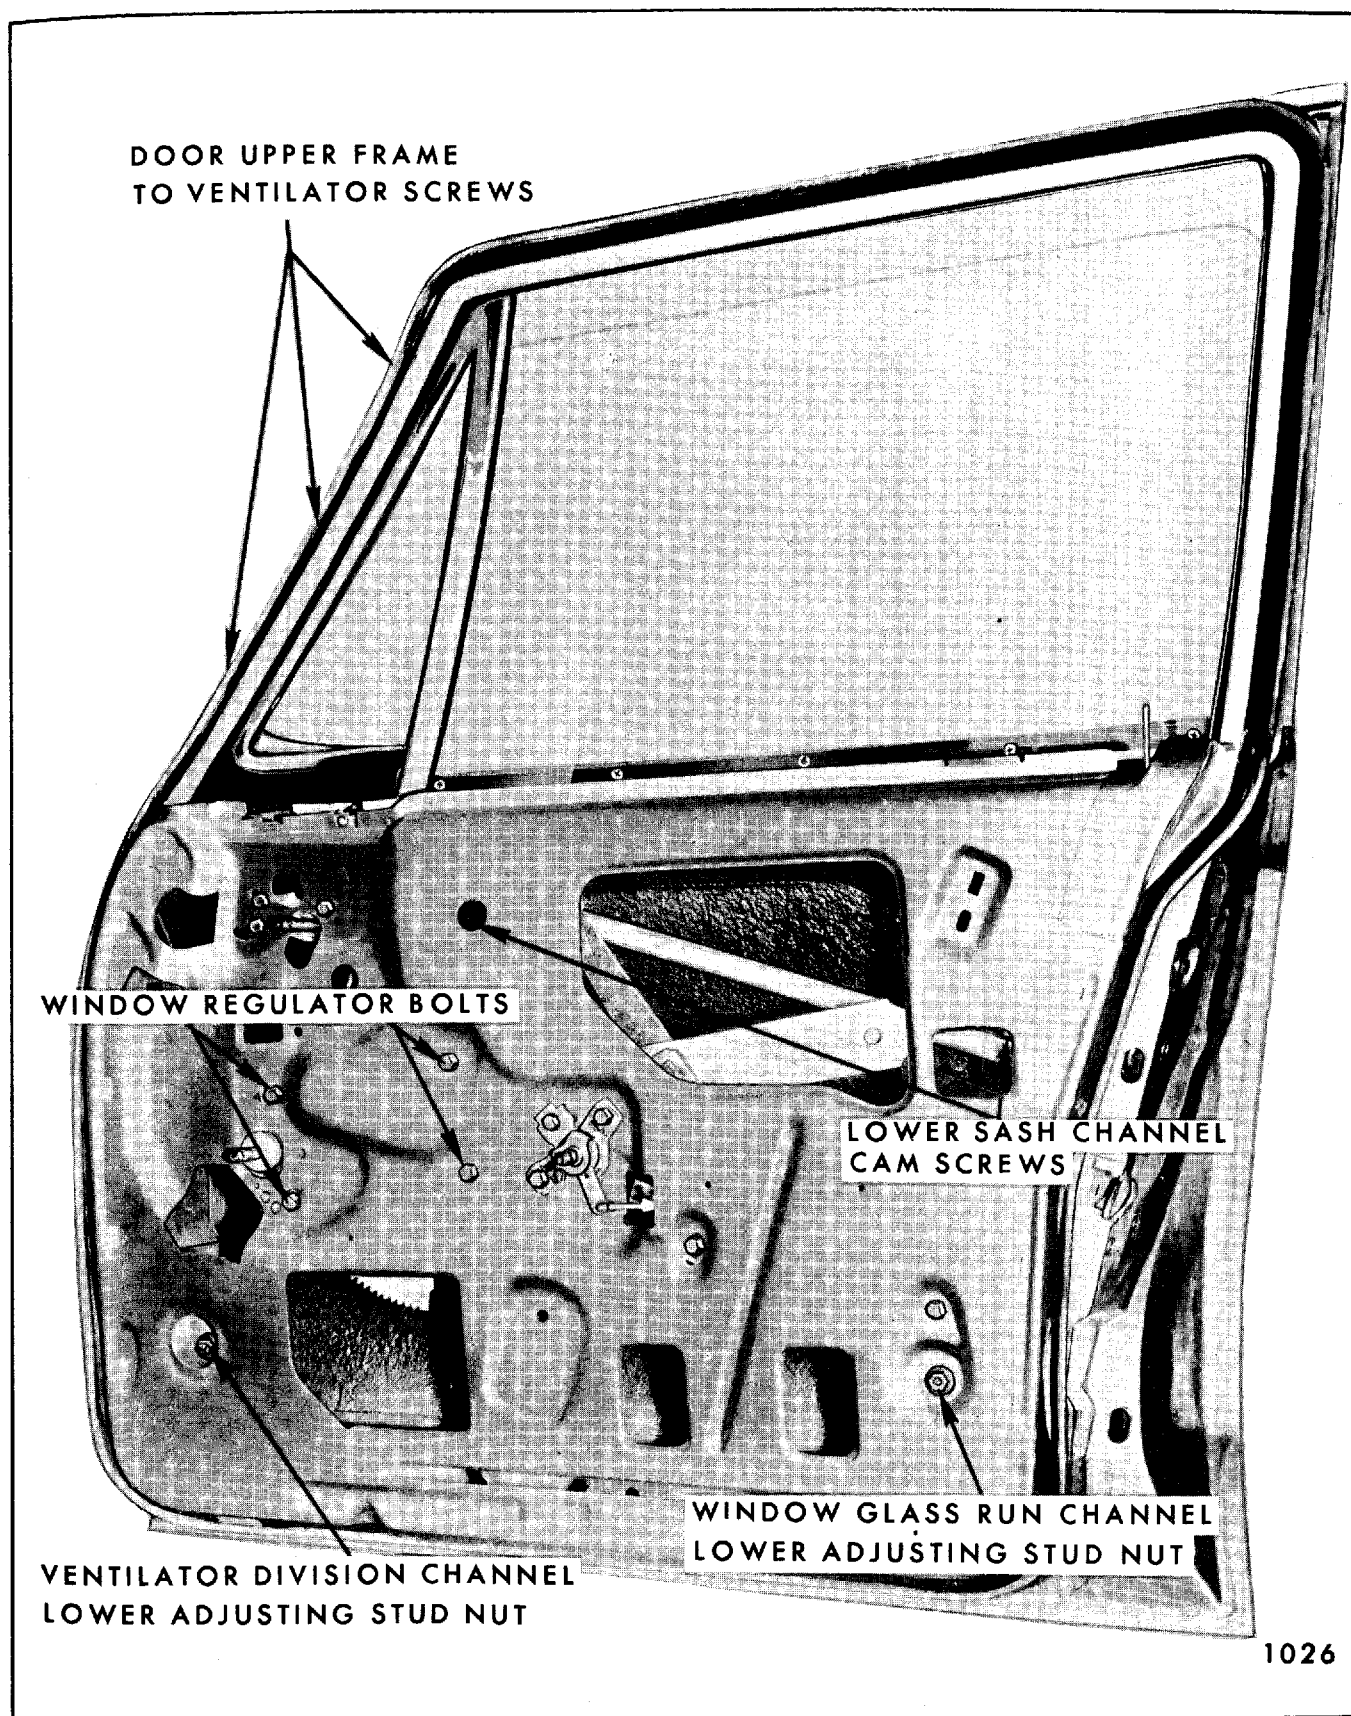

Fig. 7-64—Door Ventilator and Regulator Attachment - "B & C" Closed Styles
3. Lower door window. Remove screws securing ventilator lower frame to door inner panel and to door outer panel (Fig. 7-64).
4. Remove division channel lower adjusting stud nut (Fig. 7-64).
5. Remove ventilator upper attaching screws along door upper frame (Fig. 7-64). Disengage upper front end of glass run channel from door upper frame to permit rearward movement and removal of vent from door frame.
1. To adjust lower portion of ventilator division channel for proper alignment with door window assembly, lower door window and loosen ventilator adjusting stud nut. Turn adjusting stud in or out or position lower end of channel fore or aft as required; then tighten adjusting stud nut (Fig. 7-64).
2. To adjust lower section of door window rear glass run channel in-or-out for proper alignment with door window, first raise door window. Then, loosen rear run channel lower adjusting stud nut. Adjust channel as required and tighten nut (Fig. 7-64).
3. The door window inner panel cam is adjustable at the front and can correct a rotated (cocked) front door window (Fig. 7-64).